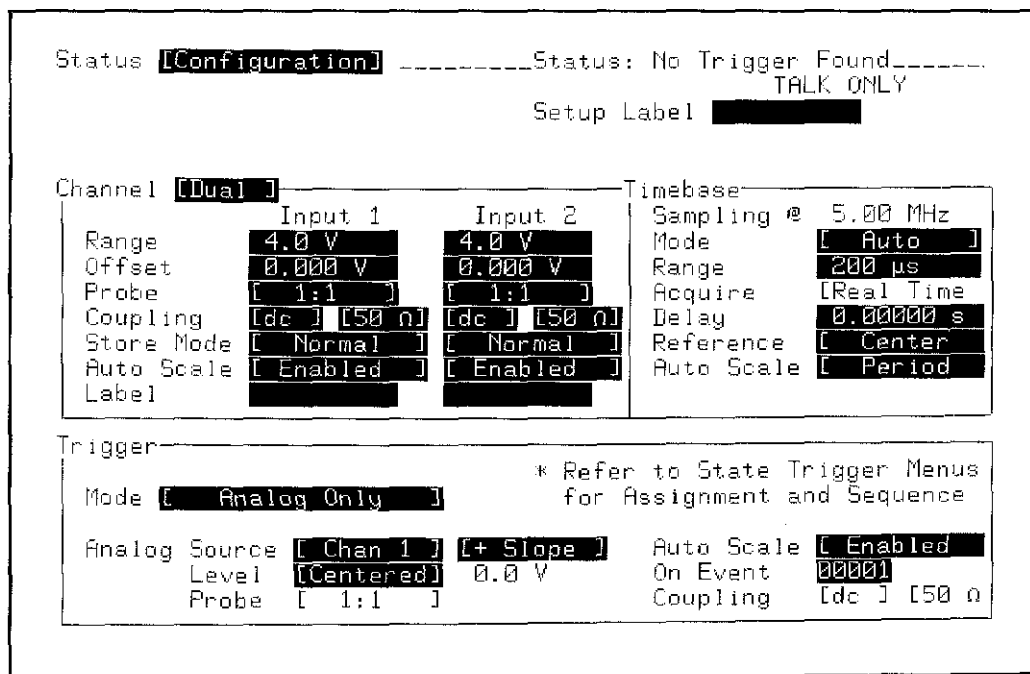

Figure 4-12. HP 54201A/D STATUS Configuration Menu
4. Configure STATUS Configuration menu as shown in figure 4-12.